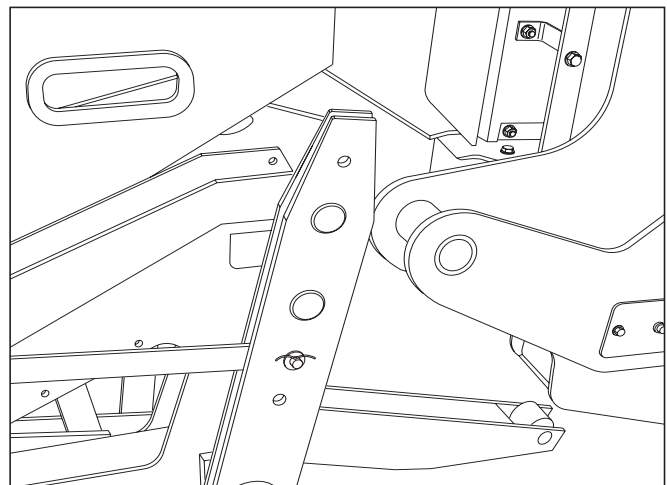

Figure 13 Move attachment toward Harvester
3. Slowly move the Forage Harvester toward the attachment (figure 13), making sure it is well centered with respect to the connecting pins.